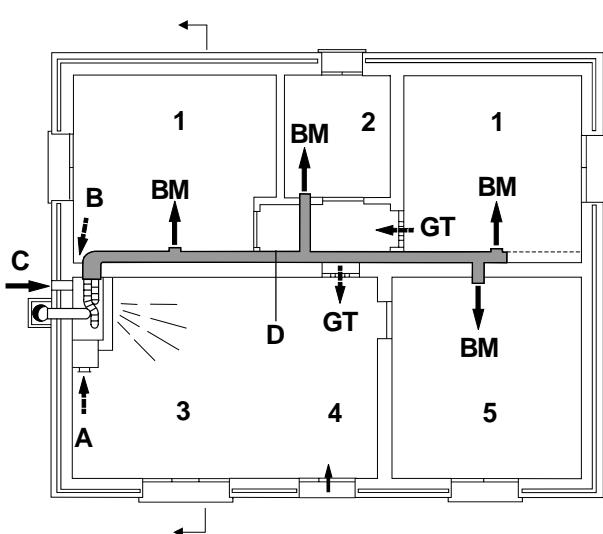

Fig. 5.7.2.3
(Fig. 5.7.2.3: 1-camera; 2-bagno; 3-soggiorno; 4-ingresso; 5-cucina)
5.7.2 Duct connections for heating several rooms (Figures 5.7.2.1 - 5.7.2.2)